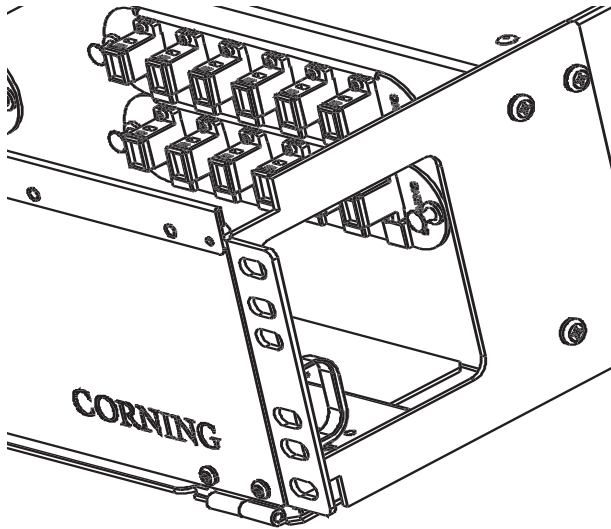

Figure 6
- Replace them with the brackets in the hardware kit for full-flush mounting (Figure 6).